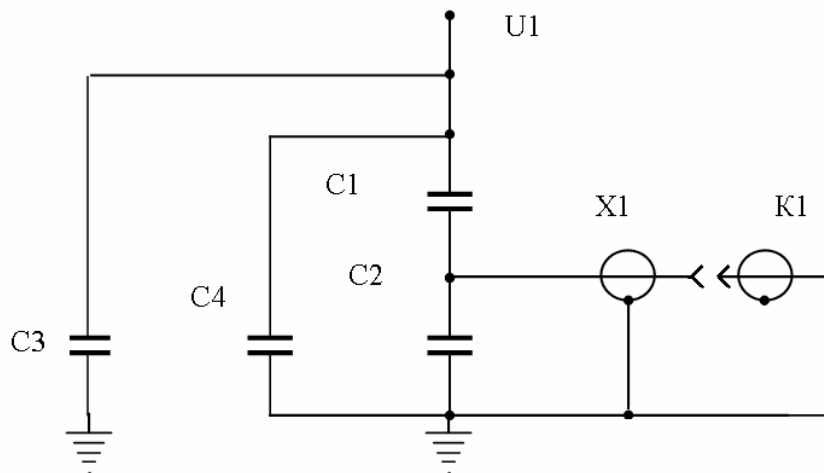

Fig. 2. Equivalent circuit of the IHC:
1.11 Before applying high voltage to the high-voltage electrode (HV electrode) U1 (see Fig. 2), the IHC case must be properly grounded and output terminal X1 must be connected to the ground by the short-circuit cable K1 or to the load with 10 kOhm impedance (but no more).
2.5.2 Schematic diagram of IHC electrical circuit is shown in Fig. 2.